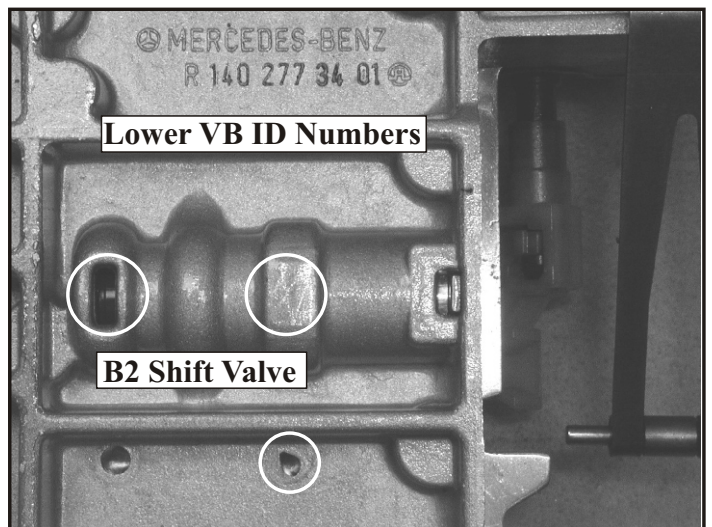
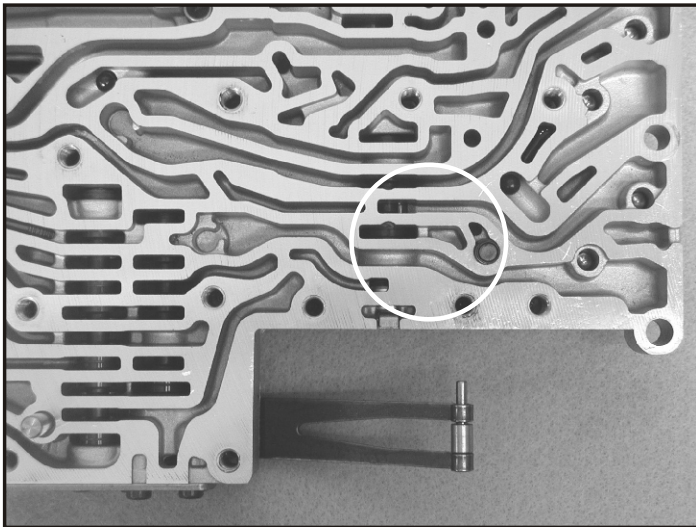

Figure 20
Figure 21
**140 277 34 01** = This second design valve body was released in March of 1996. The B2 Shift Valve bore now has only one exhaust port cast over the valve and the exhaust hole below the valve is now irregular in shape (See Figure 20). This design contains the added spring loaded plastic check valve. This check valve was added to eliminate harsh 3-2 downshift complaints by keeping pre-fill oil behind the K3 piston improving the shift timing (Figure 21).